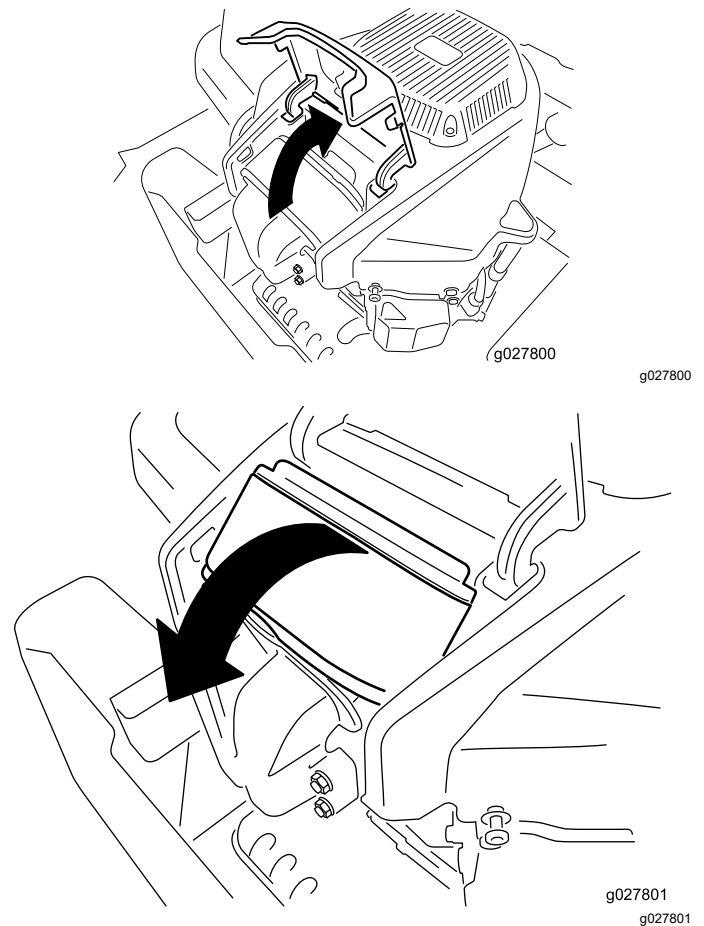

Figure 68
4. Lift the cover and rotate the air-cleaner assembly out of the engine (Figure 68).